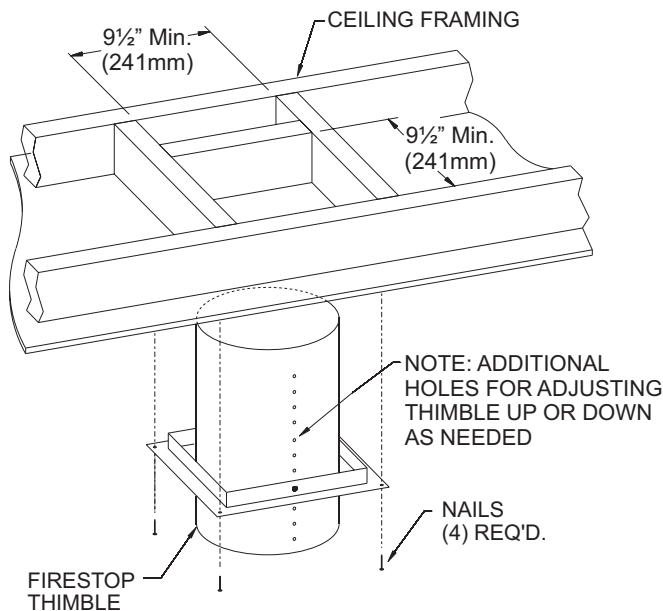

Figure 29
4. Once the fireplace location has been determined, mark the ceiling where the flex vent will pass through. Cut an opening for installation of the firestop thimble assembly. The opening must measure a minimum of 9-1/2" x 9-1/2" square. See **Figure 29**.